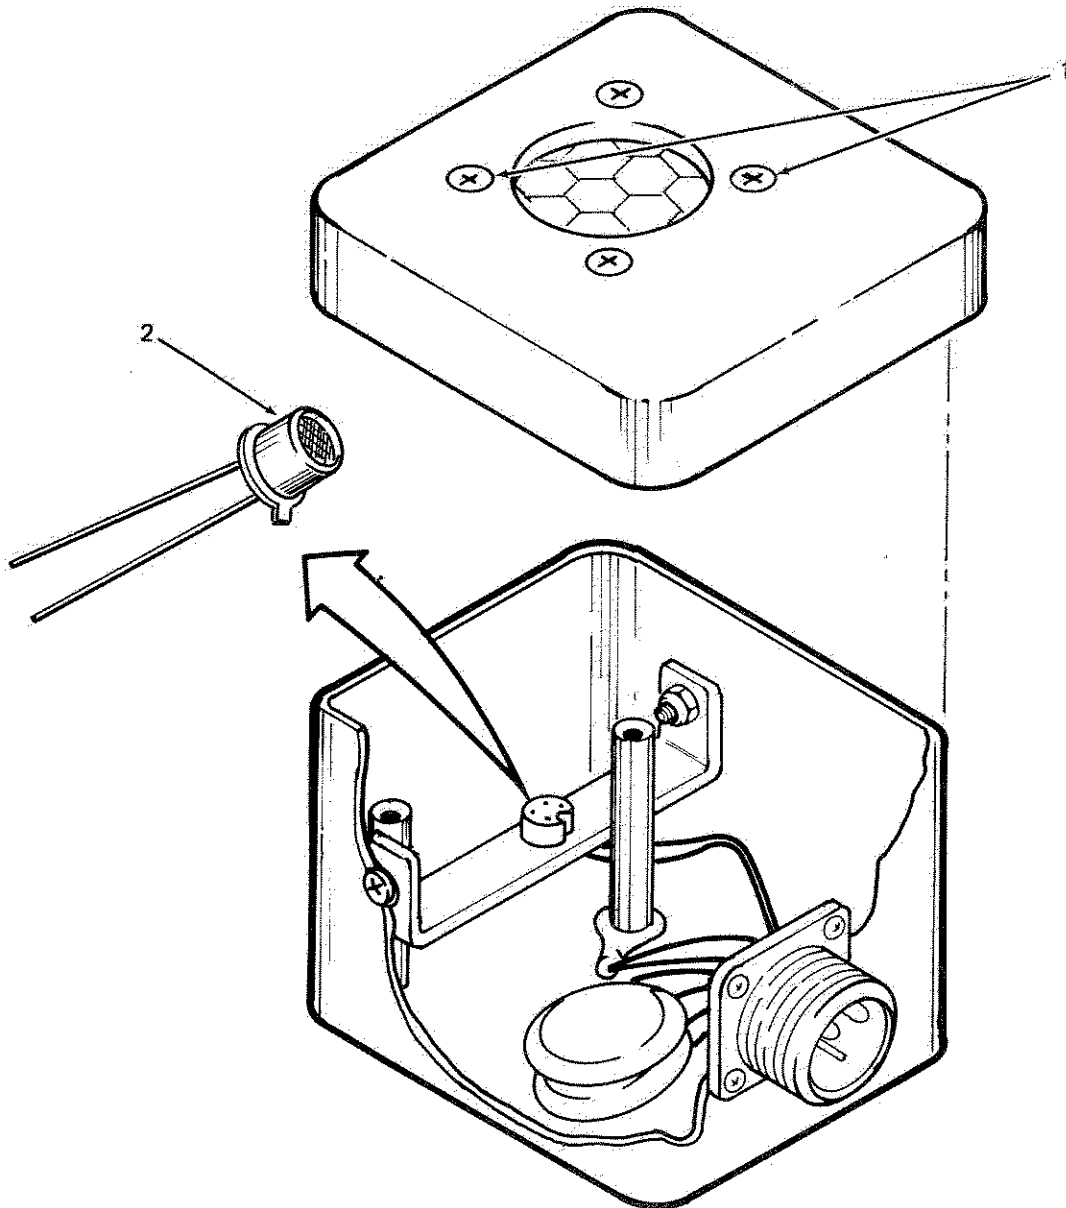

Figure 6-145. R1 Removal/Installation
6-9.6.1 R1 Removal. Refer to Figure 6-145 and perform the following.
6-9.6.2 R1 Installation. Refer to Figure 6-145 and perform the following.
1. Position V1 (3) so ignitor terminal is as shown in Figure 6-145.